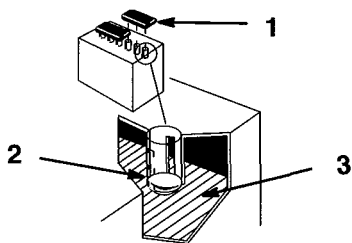

Figure 35
2. Open covers to see into the cells. The electrolyte must be up to the lower part of the tube (Fig. 35). Do not allow the electrolyte to get below the plates (Fig. 35).
2. Lift off the filler caps (Fig. 35).
3. Slowly pour distilled water into each battery cell until the level is up to the lower part of the tube (Fig. 35).